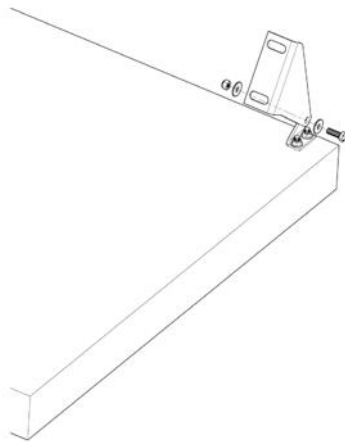

Figure 9
37. Attach the base pad to the unit using $\frac{1}{4}$ -20 hex bolts and nylon lock nuts to connect the hinge to the hinge bracket on the unit. Refer to figure 9.